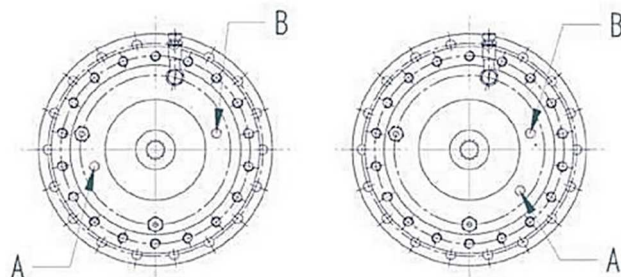

Fig. 8.13-1 - Oil caps on reduction gears: two different examples of cap position
Two oil caps are present on them, which can be placed at various angles and of which only two examples are shown (Fig. 8.13-1), one for the drain hole (identified with the letter "A") and one for the filling one (identified with the letter "B").
- Turn the reduction gear until the drain cap (position "A", Fig. 8.13-1) reaches approximately 15° below the centreline of the reduction gear.
- Enter oil in the reduction gear by using the filling hole (position "B", Fig. 8.13-1) until oil seeps out from the drain hole (position "A", Fig. 8.13-1).
- Turn the reduction gear until the drain cap (position "A", Fig. 8.13-1) reaches the maximum lowest point.
- Unscrew the drain (position "A", Fig. 8.13-1) and filling (position "B", Fig. 8.13-1) caps to promote oil outflow from the reduction gear. Once oil has been emptied, put the drain cap back in.